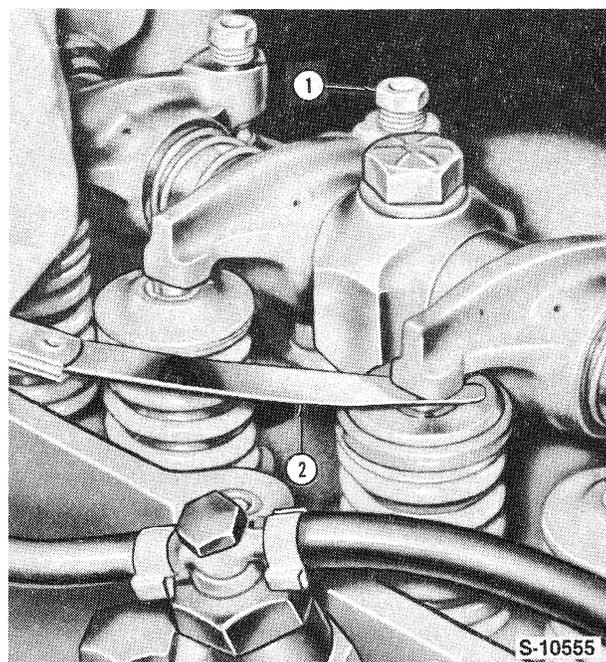

Figure 20
- Rotate the engine and set the valve lash, Figure 20. See "Specifications" — Chapter 3.